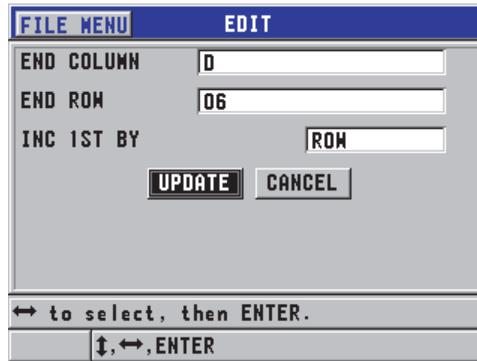

Figure 6-30 Displaying the grid edit screen
3. For a grid file, select **CONTINUE**, and then perform the following actions in the second page of the **EDIT** screen (see Figure 6-30 on page 108):